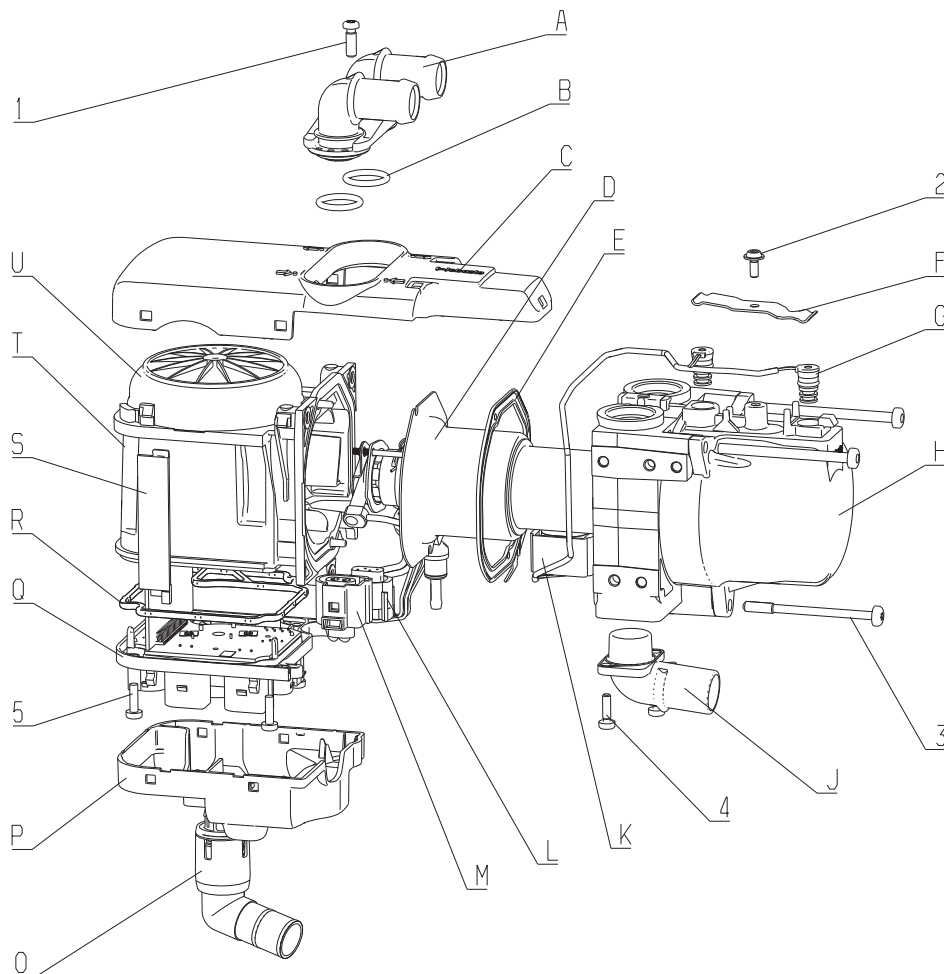
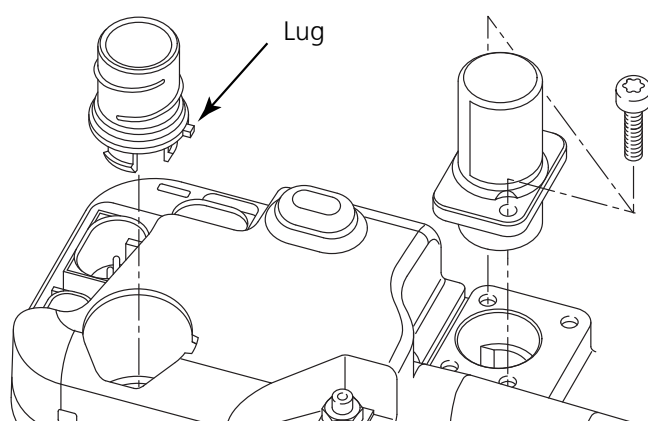

Fig. 901 Dismantling heater
Fig. 902 Installing air-intake and exhaust connection piece
1. Loosen screw (1, Fig. 901) and remove water connection piece unit (A) with O-rings (B).
2. Loosen screw (4) and remove exhaust connection piece (J) from heat exchanger (H). This work step is eliminated with a fixed exhaust connection piece.
3. Loosen heater cover (C) at 4 side detents on fan housing (T) with a screwdriver. Then remove heater cover (C) from heater toward front.
4. Remove cable cover (S) from fan housing (T).
5. Press air-intake connection piece (O) slightly to side and pull out of control unit (Q) in axial direction.
6. Release connector cover (P) on side facing away from fuel connection piece at side detents with a screwdriver and take off heater.
7. Loose detent of connector (K, L, M) and pull connector off control unit (Q).
8. Loosen screws (3) and pull heat exchanger (H) off fan housing (T) in axial direction of screw fitting.
9. For information on removing the burner (D), see section 9.2.5.
10. For information on removing temperature sensor and overheating sensor (G), see section 9.2.8.
1. For information on installing new temperature sensors (G, Fig. 901), see section 9.2.9.
2. For information on installing burner (D), see section 9.2.7.
3. Clean heat exchanger (H) inside and outside and place on fan. Tighten screws (3) with 7 ± 0.7 Nm and do not cut new thread if possible when doing so (i.e. turn screw into existing thread).
5. Place connector cover (P) on control unit (Q) and engage with light pressure.
6. Insert air-intake connection piece (O) into control unit (Q). In the process, the lug of the connection piece (O) must be guided into the opening provided (facing in direction of fuel connection piece). See Fig. 902.
It is not permissible to remove parts of the fan housing (T, Fig. 901)!
3. Loosen screw (2, Fig. 901).
4. Remove retaining spring (F) and pull sensors out of heat exchanger (sensors are not accessible from inside). Do not pull on plastic head or cable when doing so.